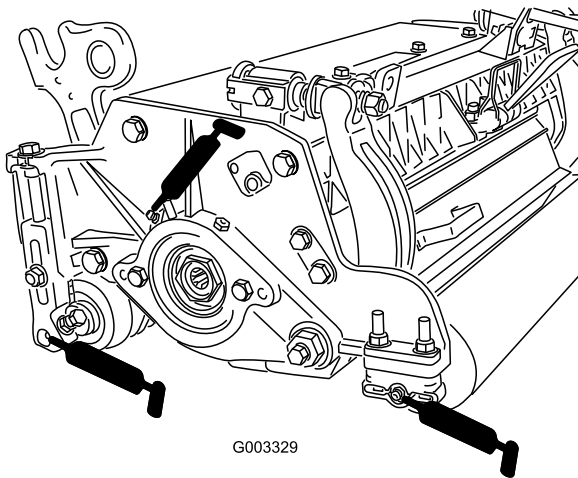

Figure 22
Each cutting unit has (6) grease fittings (Figure 22) that must be lubricated regularly with No. 2 General Purpose Lithium Base Grease.